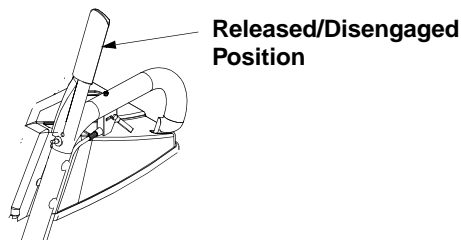

Figure 8
- When the auger control is released and in the disengaged “up” position, the cable should have very little slack, but should NOT be tight. See Figure 8.